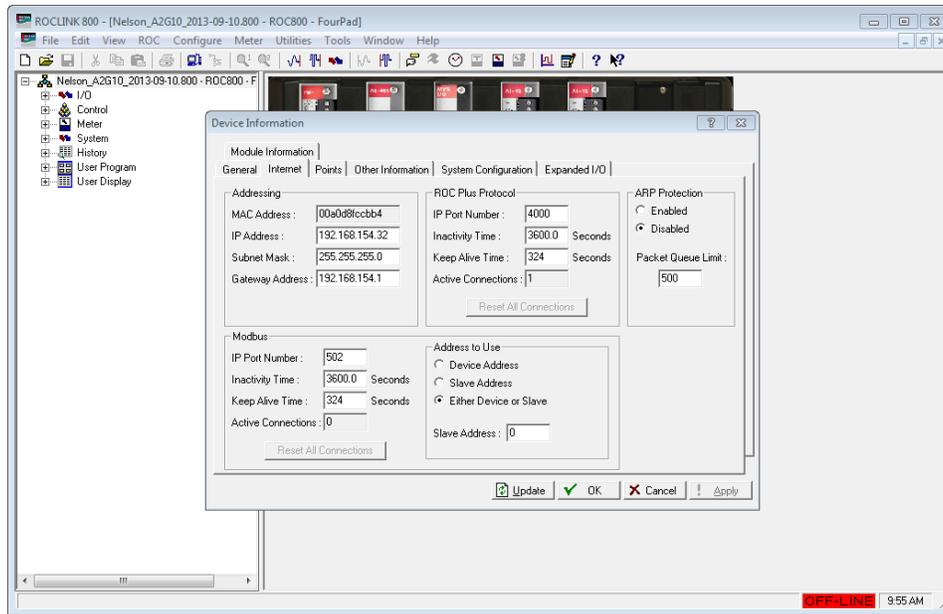

Figure 8.
8. Referring to Figure 8, go to the menu bar and click *ROC – Information*.